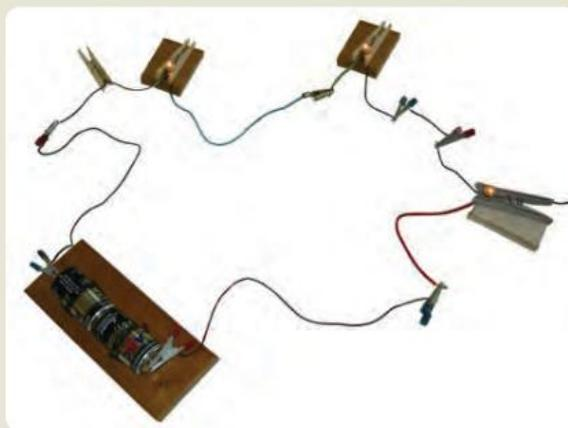

Figure 8.31 Three bulbs connected in series
- 6 Put Bulb 2 into its place again. Check the brightness of the two bulbs. Now add another bulb (call it Bulb 3) as shown in Figure 8.31. Check the brightness of the three bulbs.